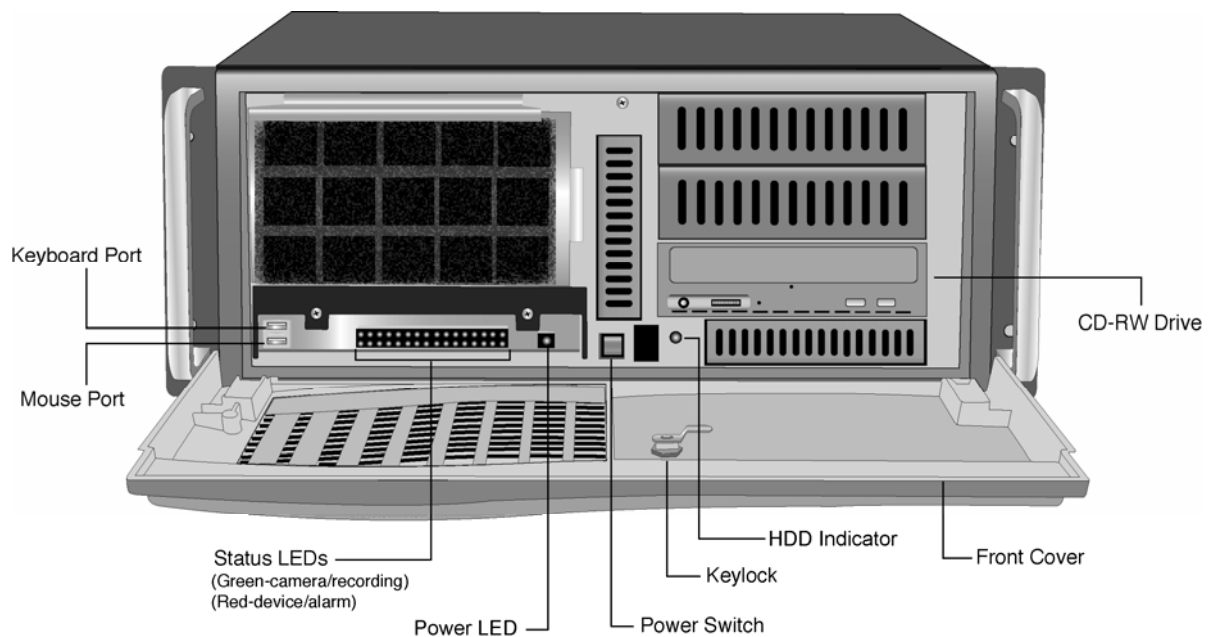
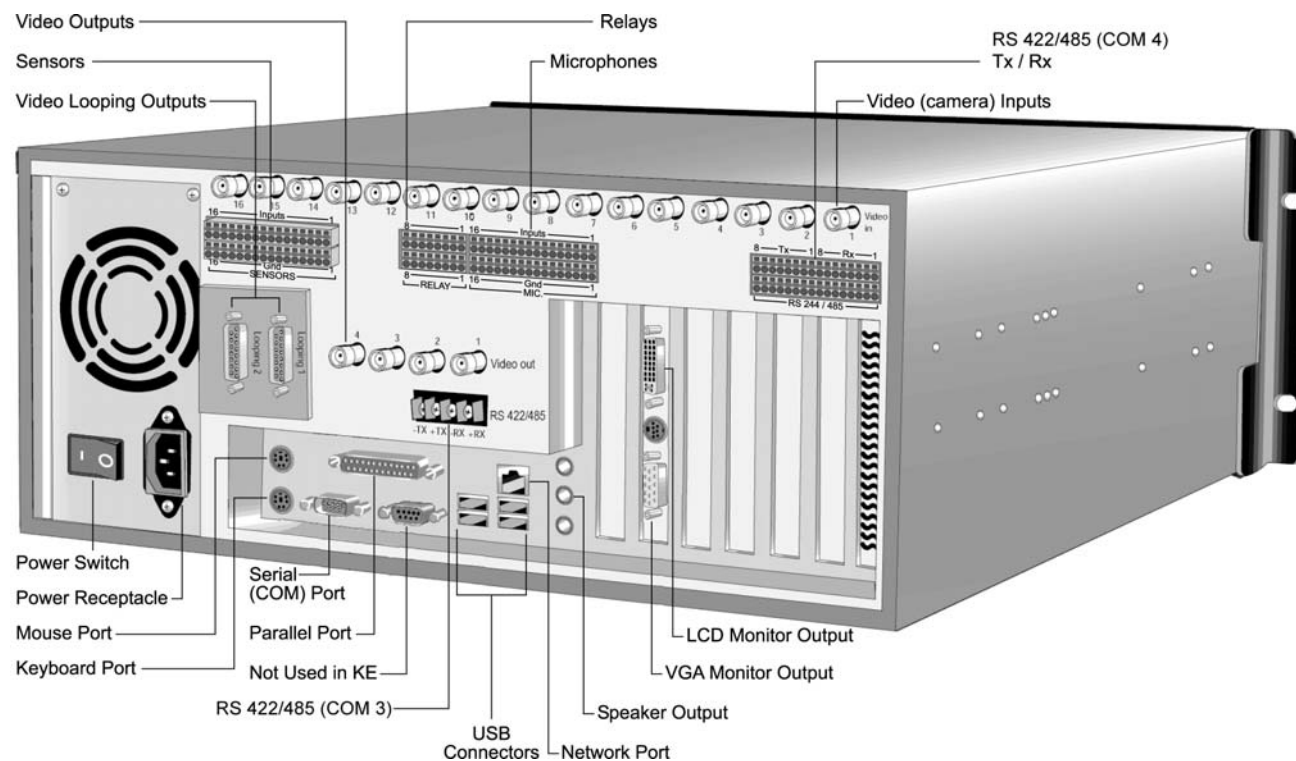

Figure 3-1: Front Panel Layout
Figure 3-2: Rear Panel Layout
1. Perform the following connections: (refer to Figure 3-1 on page 6 and Figure 3-2 on page 7).